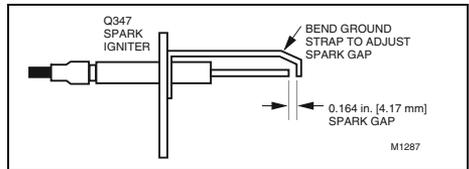

Fig. 1—Adjust Q347 spark gap.
3. The Q347 spark gap is factory-adjusted to 0.164 in. [4.17 mm]. If necessary, adjust spark gap by bending the ground strap. Refer to Fig. 1.
The flame signal is best when about 1 in. [25 mm] of flame rod is immersed in the burner flame. Refer to Fig. 1. A bent